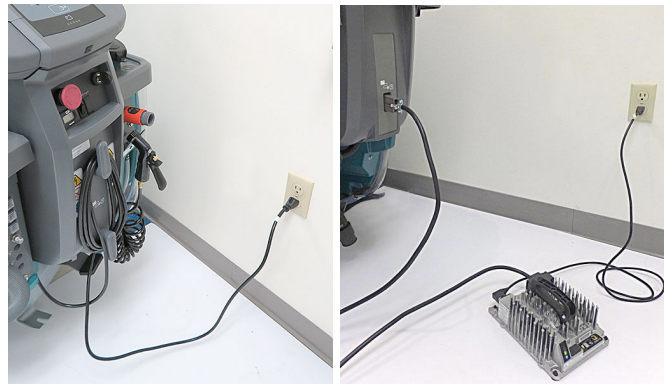

FIG. 115
- Charge batteries (Figure 115). See BATTERIES.